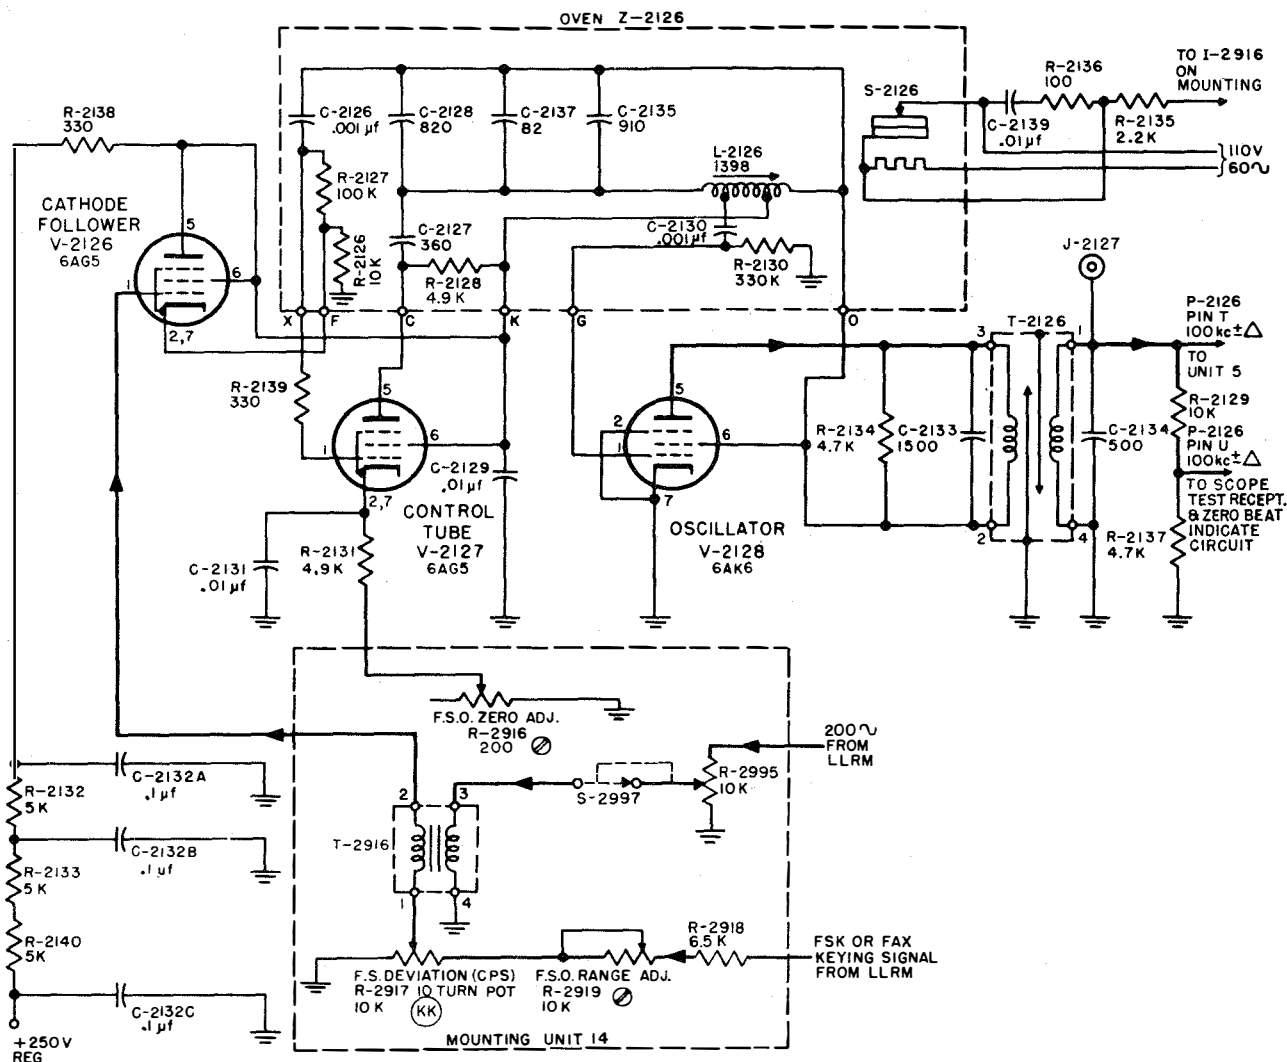

Figure 2-11. RFO Unit 12, Frequency Shift Oscillator, Simplified Schematic
(6) OUTPUT CIRCUIT.—Oscillator V-2051 is provided with a tuned output circuit comprising the tunable transformer, T-2051, and capacitors C-2062 and C-2063. Resistors R-2058, R-2059 and R-2056, R2057 are voltage dividers from which the two 90- to 100-kc outputs are tapped. These resistors widen the band pass by loading the output tank circuit. Output 3b, taken from the junction of R-2058 and R-2059, is fed to the oscilloscope test receptacle for use as an aid in servicing. Output 3a, taken from the junction of R-2056 and R-2057, is fed to unit 5. Test point J-2054 is provided for testing output 3a whose amplitude is approximately 0.3 volt.
(7) HEATER CIRCUIT.—The oven heater circuit includes thermostat S-2054 and the heater element located inside the oven, and R-2060, R-2061 and C-2065 located outside the oven. R-2061 and C-2065 constitute a spark-suppressor circuit. When the heater is on, the INT.-HEATER ON indicator light, I-2917, on the mounting front panel is energized via dropping resistor R-2060.
f. RADIO FREQUENCY OSCILLATOR Z-2127 (FREQUENCY SHIFT OSCILLATOR, UNIT 12).—This unit (figure 2-11) makes possible frequency-shift keying and facsimile operation of the transmitter. It includes a 100-kc oscillator that is capable of shifting its frequency $\pm 1,000$ cps from 100 kc at a 240-cps rate (corresponding to teletype at 600 words a minute) during FSK operation, or up to 2,000 cps, as determined by the amplitude of the photo input voltage, during facsimile operation.
(1) OSCILLATOR V-2128.—This stage is an electron-coupled 100-kc Hartley oscillator. To obtain stability, the frequency controlling tank circuit, comprising capacitors C-2128, C-2137, C-2135, tunable inductor L-2126, and associated elements, is located in an oven maintained at 70°C. (158°F.). Plug-in inductor L-2126 is a coarse frequency control. The tuned output tank, comprising T-2126, C-2133 and C-2134, filters the output and isolates the oscillator from the RFO subunits to which the oscillator output is connected. Load resistor R-2134 increases the band pass of the output tank.
(2) CONTROL TUBE V-2127.—The control tube circuit is essentially a part of the oscillator circuit. A portion of the oscillator output is coupled to the control grid of V-2127 by C-2126. This is equivalent to changing a reactive component in the tank, and will change the oscillator frequency. The frequency, however, may be adjusted to 100 kc (in the absence of frequency-shift or facsimile keying signals) by means of the coarse control, L-2126, and the fine control, F.S.O. ZERO ADJ., R-2916, which is located on the control panel and sets the cathode bias of the control tube. If the control tube grid voltage is now made more positive, the control tube delivers a larger reactive current to the tank, and the oscillator frequency increases. If the grid voltage is made less positive, the oscillator frequency decreases.
(3) CATHODE FOLLOWER V-2126.—The control tube grid circuit is connected to the output of cathode follower V-2126 via isolating resistor R-2127. By this means the oscillator frequency may be made to vary in accordance with the voltage variations at the cathode follower grid. The grid is returned to ground through the secondary winding of T-2916, and a portion of potentiometer R-2917. All these components through which the grid is grounded are located on the mounting front panel. The F.S. DEVIATION control $\text{\textcircled{K}}$, R-2917, is calibrated directly in cycles per second deviation from the nominal carrier frequency. For FSK operation, control $\text{\textcircled{K}}$ may be set to provide an oscillator frequency deviation $\left(\frac{\Delta f}{2}\right)$ up to ± 500 cycles from the signal from V-1019 in the LLRM. The equipment FSK keying requirements specify a deviation adjustable to any value between zero and 500 cycles (minimum) on each side of